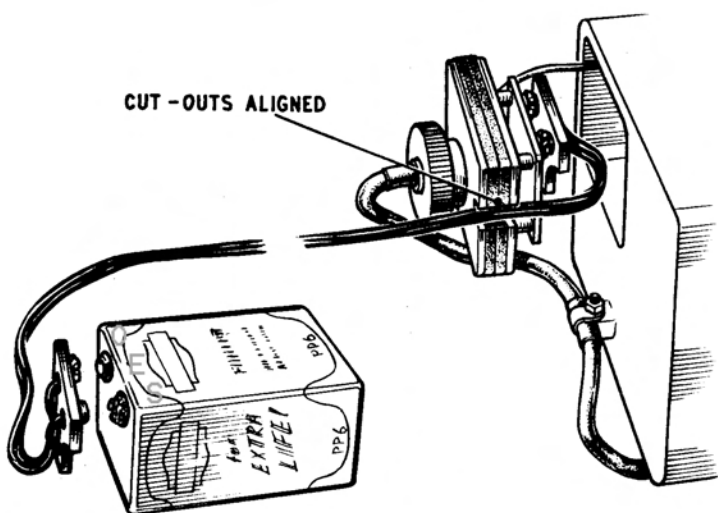

FIG. 8 BATTERY CABLE EXTENSION CONNECTIONS (BELOW 32° F.)
these to mating terminals mounted on a terminal block attached to the inner face of the bung. For Arctic use, i.e. below 32°F, to ensure the efficiency of the battery, an extension cable is provided which enables the battery to be carried inside the operator's clothing. When this extension cable is used, the two metal plates and gaskets on the bung are so positioned that cut-outs on their peripheries are aligned, giving entry for the cable to the battery compartment. The extension cable is connected by press studs to the terminal block, (Fig.8), led through the bung, and the remote end connected to the protected battery.
6.2 FOR USE AT TEMPERATURES BELOW 32° F (Fig.8)